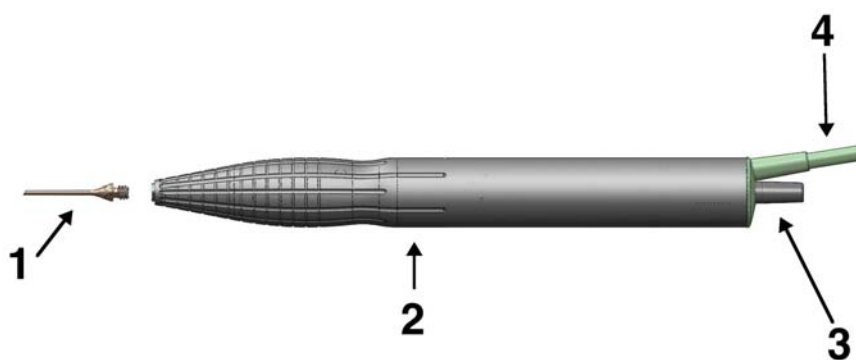

Figure 5.4. Fragmentation Needle and Handpiece.
- A. Remove the silicone irrigation sleeve and the needle. Remove any tubing from the rear of the handpiece. See Figure 5.3 and Figure 5.4. Rinse the exterior of the handpiece by holding it under cold running tap water for fifteen seconds, rotating the handpiece to expose all surfaces to the flowing water.